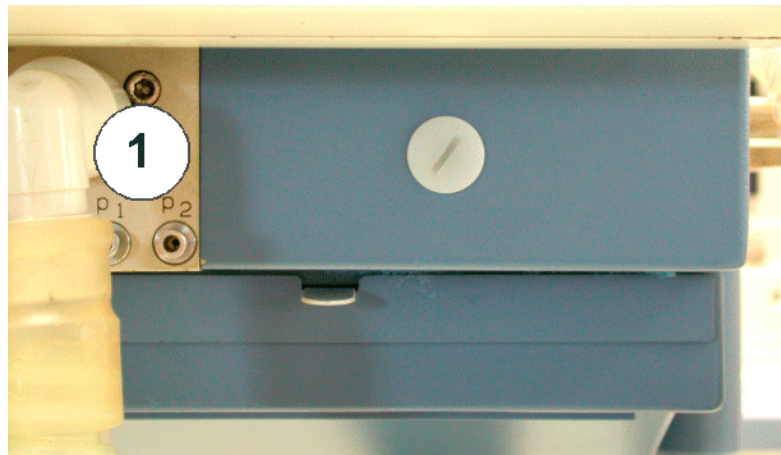

Figure 2 Front view of the machine, protective cover
1. Swivel inspiratory port down (Figure 2/1).